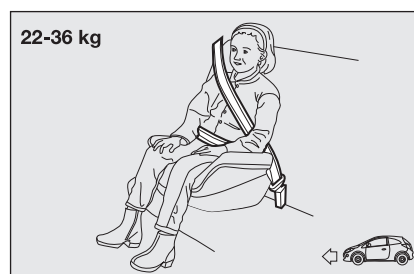

fig. 8
**Fig. 8** shows proper child restraint system positioning on the rear seat. Children over 1.50 m in height must wear seat belts like adults.